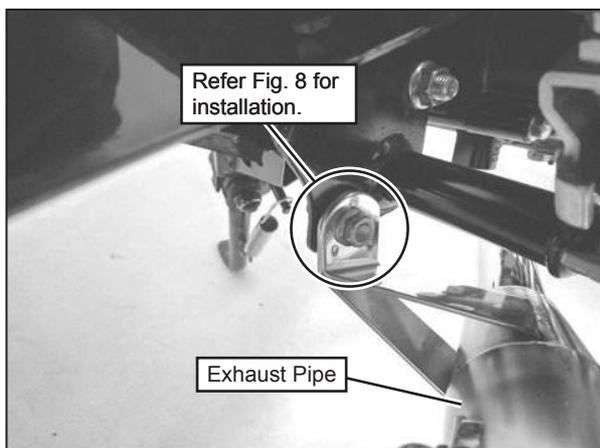

FIG. 4
- 4) Fix exhaust pipe bracket at bolt hole bottom of the engine with stock bolt and Spacer 8-26-4 Tighten bolt by hand only at this stage. (See Fig. 4 & 5)